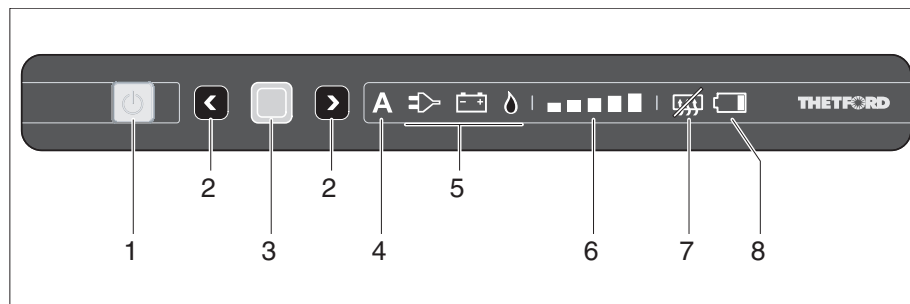

Fig. 356 Operating and display elements for the refrigerator (Thetford without SES)
- Press the button (Fig. 356,1). The button lights up green. Press the button again in order to display the current settings.
- Press and hold the button (Fig. 356,1). All the lamps go out.
If automatic mode is selected, the automatic mode display (Fig. 356,4) and the best available source (Fig. 356,5) light up in the operating panel.
- Press and hold the confirmation button (Fig. 356,3).
The operating mode symbols (Fig. 356,5) begin to flash.
- Use the selection buttons (Fig. 356,2) to select gas operation and apply the selection by using the confirmation button (Fig. 356,3).
- Use the selection buttons (Fig. 356,2) to select 230 V operation and apply the selection by using the confirmation button (Fig. 356,3).
- Use the selection buttons (Fig. 356,2) to select 12 V operation and apply the selection by using the confirmation button (Fig. 356,3).
- Press the confirmation button (Fig. 356,3) again.
The cooling level display (Fig. 356,6) begins to flash.
- Use the selection buttons (Fig. 356,2) to select the desired cooling level and apply the selection by using the confirmation button (Fig. 356,3).